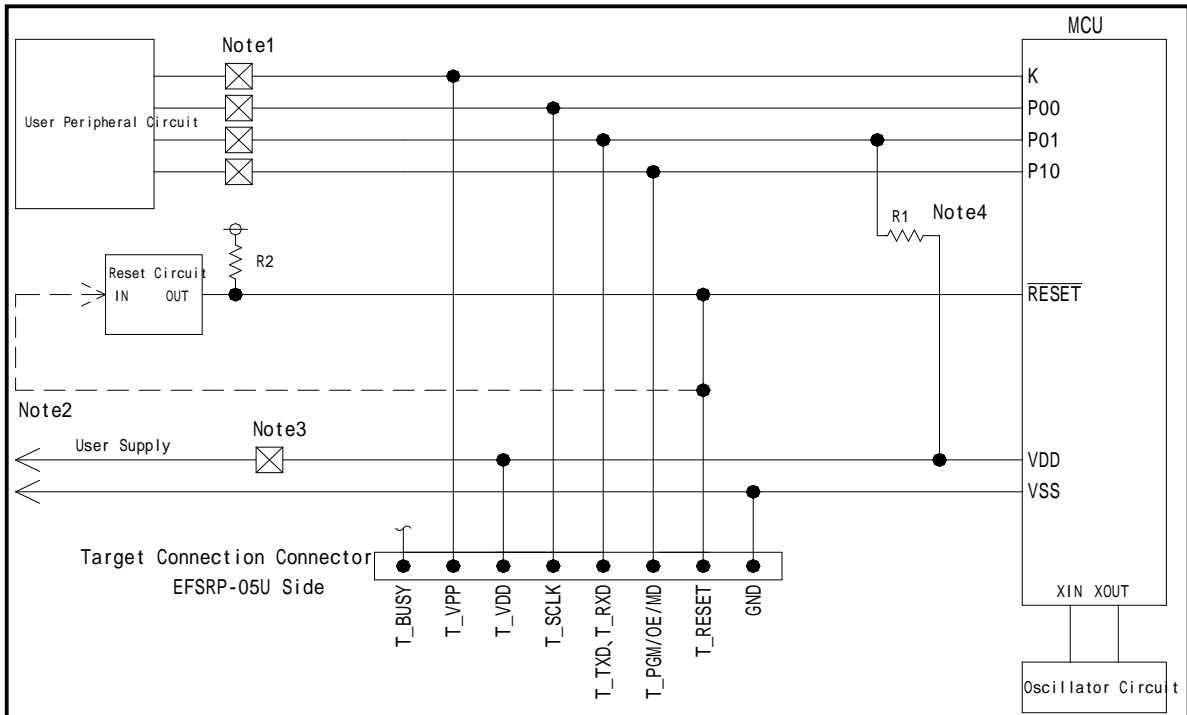

Fig3.1: Target MCU Peripheral Circuit Example
(1) Fig3.1 shows an example of target MCU peripheral circuit when using 4571 group.